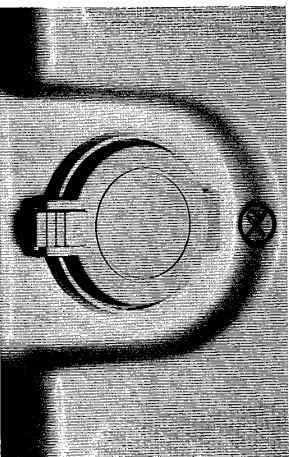

Figure 11
6. Depress the latch to unlock the cap. See figure 11.